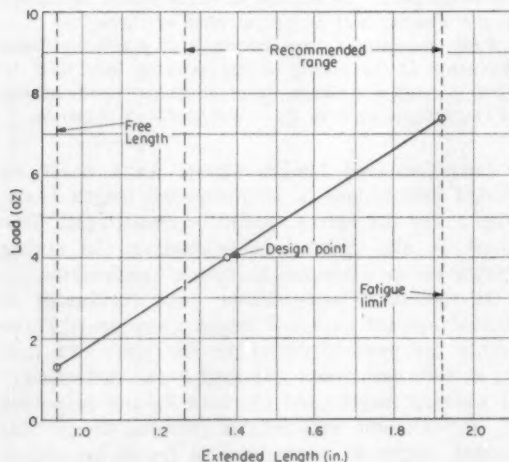

Fig. 5 — Construction of load-extended length chart for checking spring design calculations.
Load-Extended Length Chart: As a check on design calculations, a load-extended length chart, Fig. 5, for the spring should be constructed. This chart is also helpful in evaluating the spring design for possible use in future applications.
Consider the previous example. The load-extended length chart for this spring design is plotted in Fig. 5. Reference data for the plot are: (1) $P_{it} = 0.08$ -lb = 1.28 oz, $H = 0.936$ -in.; (2) $P =$
These three points should fall on a straight line when plotted, as shown in Fig. 5. Failure of the points to line up indicates error in the calculations.
In the design example given here, one-third of the total deflection is $0.988/3 = 0.329$ in., and six times the free length tolerance is $6(0.031) = 0.186$ in. Thus, a line should be drawn on the chart at the 0.329-in. deflection point (1.265-in. extended length) to indicate the minimum recommended working length of the spring, Fig. 5. Al-